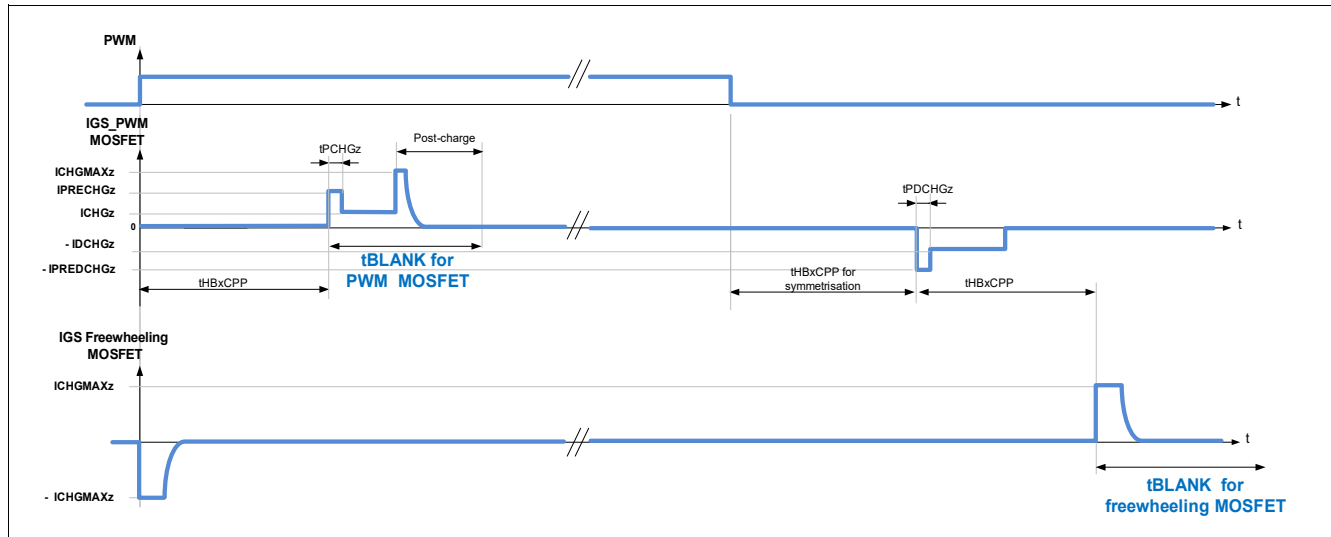

Figure 72 Blank time for half-bridges in PWM operation with $AFW = 1$
- the blank time of the PWM MOSFET starts at the expiration of the cross-current protection time of the PWM MOSFET. Refer to Figure 72.
- the blank time of the free-wheeling MOSFET starts after expiration of the cross-current protection time at turn-off of the PWM MOSFET. Refer to Figure 72.